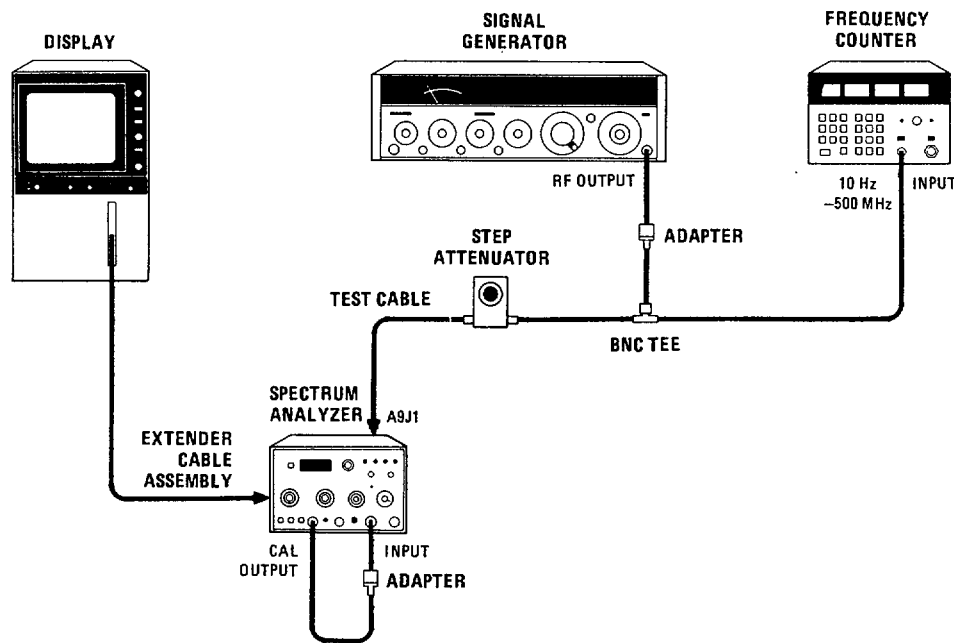

Figure 5-9. 3-dB Bandwidth Adjustment Test Setup
2. Connect equipment as shown in Figure 5-9 except for signal input to A9J1. Connect CAL OUTPUT to spectrum analyzer INPUT 50(.
9. Connect signal generator through the BNC Tee connector to the step attenuator and to the frequency counter as shown in Figure 5-9. Set the signal generator to approximately 0 dBm and the step attenuator to 30 dB. Set COUNTER MODE to EXPAND X100.